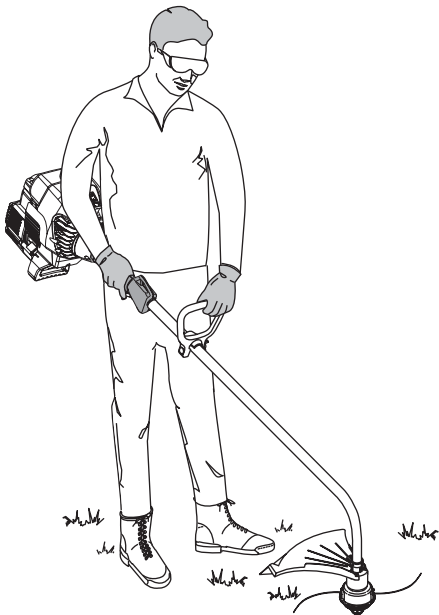

Fig. 2
4. While holding the unit in the operating position (Fig. 2), position the D-handle to the location that provides you the best grip.